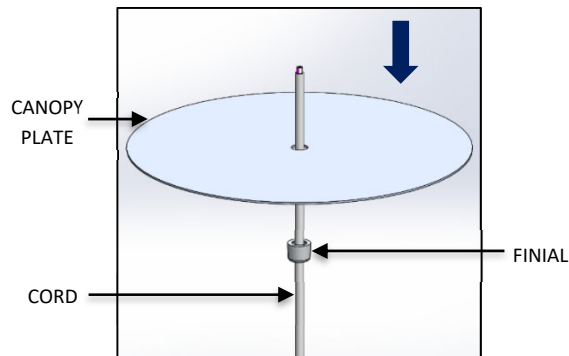

FIG. 19 – CANOPY PLATE AND FINIAL INSTALLATION
12. Pass the FINIAL and the CANOPY PLATE through the CORD as shown in FIG. 19 below.